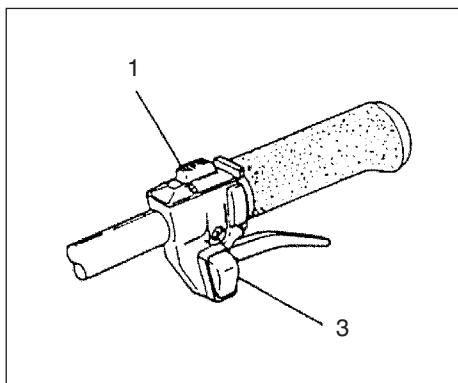

Fig. 2-2
Starting (Fig. 2-2, 2B)
1. Set ignition switch (1) to ON position. (Fig. 2-2)